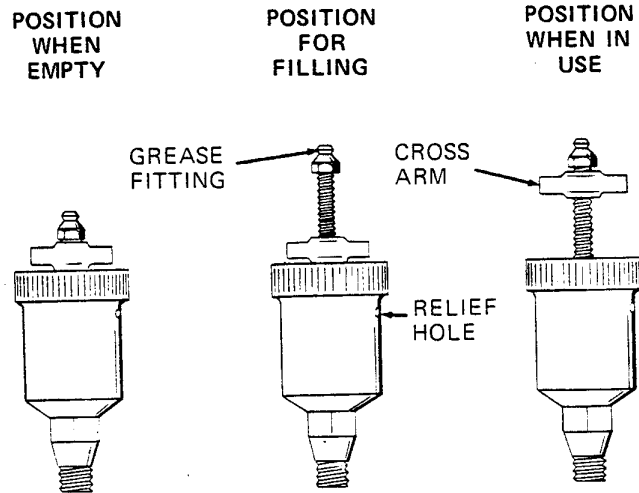

Figure 3. Automatic Lubricating Grease Cup
Before removing the seal assembly, turn the cross arm on the seal grease cup (13) clockwise until it rests against the cover (see figure 3). This will prevent the grease in the cup from escaping after the seal is removed.
Before starting the pump, fill the grease cup through the grease fitting with a good grade of No. 2 pressure gun grease until grease escapes from the relief hole. Turn the grease cup arm counterclockwise until it is at the top of the stem; this will release the spring to apply grease to the seal (see figure 3).